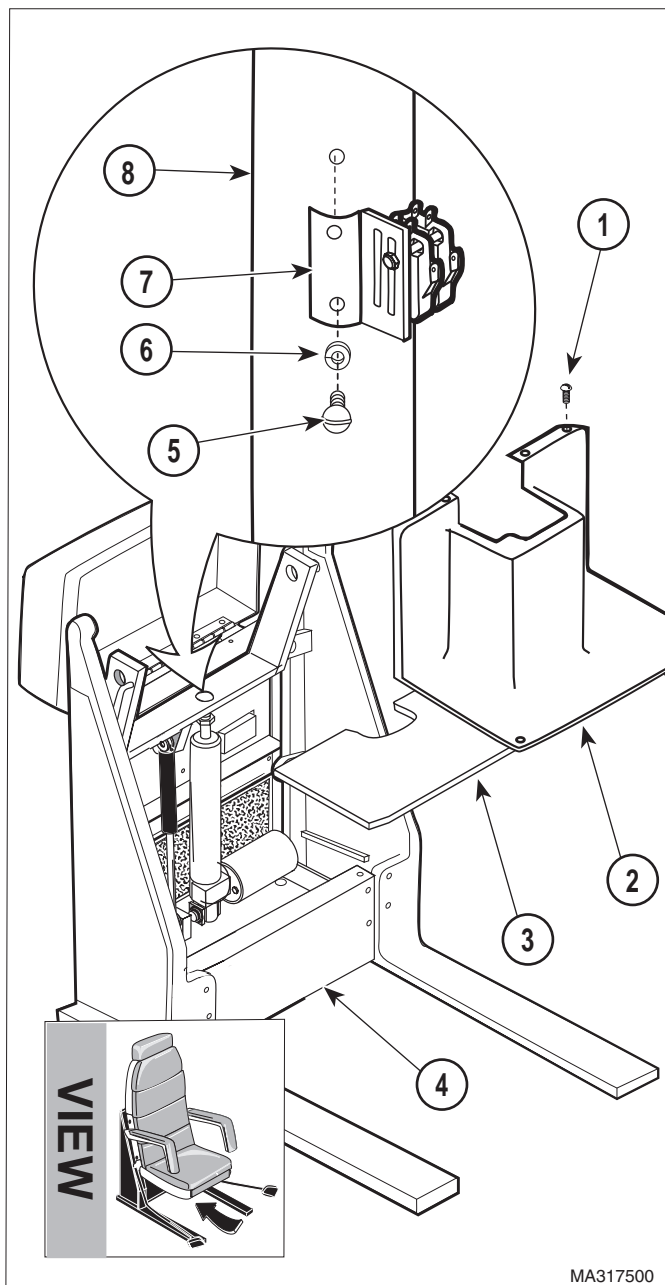
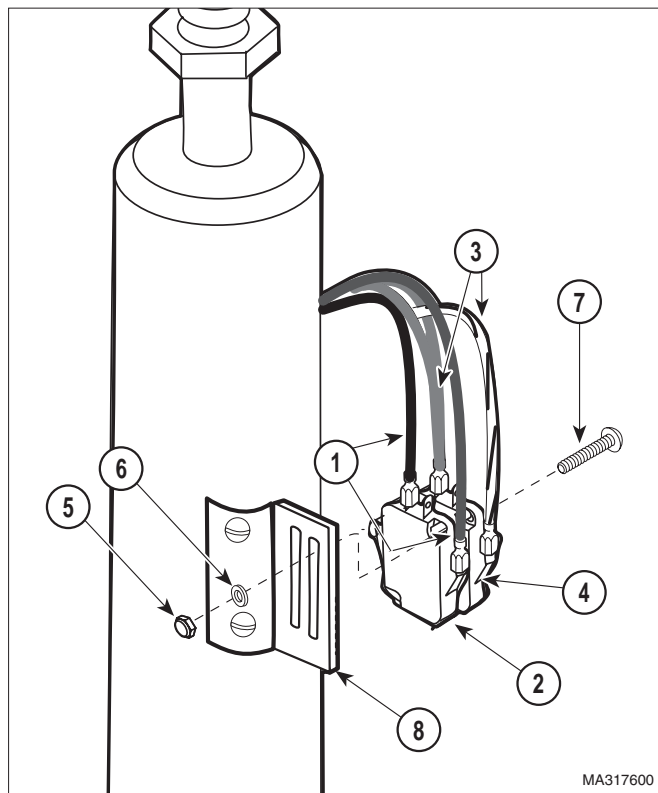

Figure 4-10. Base Down Limit Switch or Seat Down Limit Switch Removal / Installation
Figure 4-11. Wires Disconnection / Connection
- (2) Unplug chair power cord from wall outlet.
- (3) Remove seven screws (1, Figure 4-10), outer shroud (2), and inner shroud (3) from base casting (4).
- (4) Remove two screws (5), lockwashers (6), and switch bracket (7) from shaft of base actuator (8).
- (5) Tag and disconnect two wires (1, Figure 4-11) from base down limit switch (2).
- (6) Tag and disconnect two wires (3) from seat down limit switch (4).
- (1) Install limit switches (2 and 4, Figure 4-11) on switch bracket (8) and secure with two screws (7), lockwashers (6), and nuts (5), making sure to position the limit switches in approximately same position as they were removed.
- (2) Connect one wire (3) to N.C. terminal and the other wire (3) to COM. terminal of seat down limit switch (4).
- (3) Connect one wire (1) to N.C. terminal and the other wire (1) to COM. terminal of base down limit switch (2).
- (4) Install switch bracket (7, Figure 4-10) on shaft of base actuator (8) and secure with two lockwashers (6) and screws (5).
- (5) Install inner shroud (3) and outer shroud (2) on base casting (4) and secure with seven screws (1).
- (6) Plug chair power cord into wall outlet.
- (7) Run TABLE UP function up until the table top is at 2/3 of its total height.
- (8) If limit switches trip too early, loosen two screws (7, Figure 4-11) and slide limit switches (2 and 4) downward slightly; then tighten two screws (7).